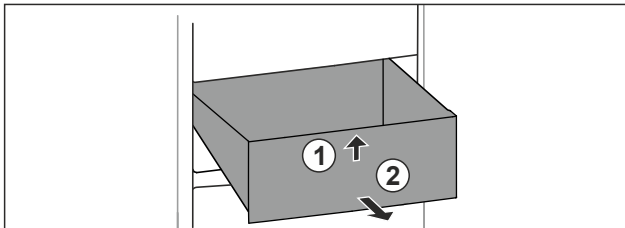

Fig. 66
- ▶ Lift up drawer at the front. Fig. 66 (1).
- ▶ Remove drawer to the front. Fig. 66 (2).